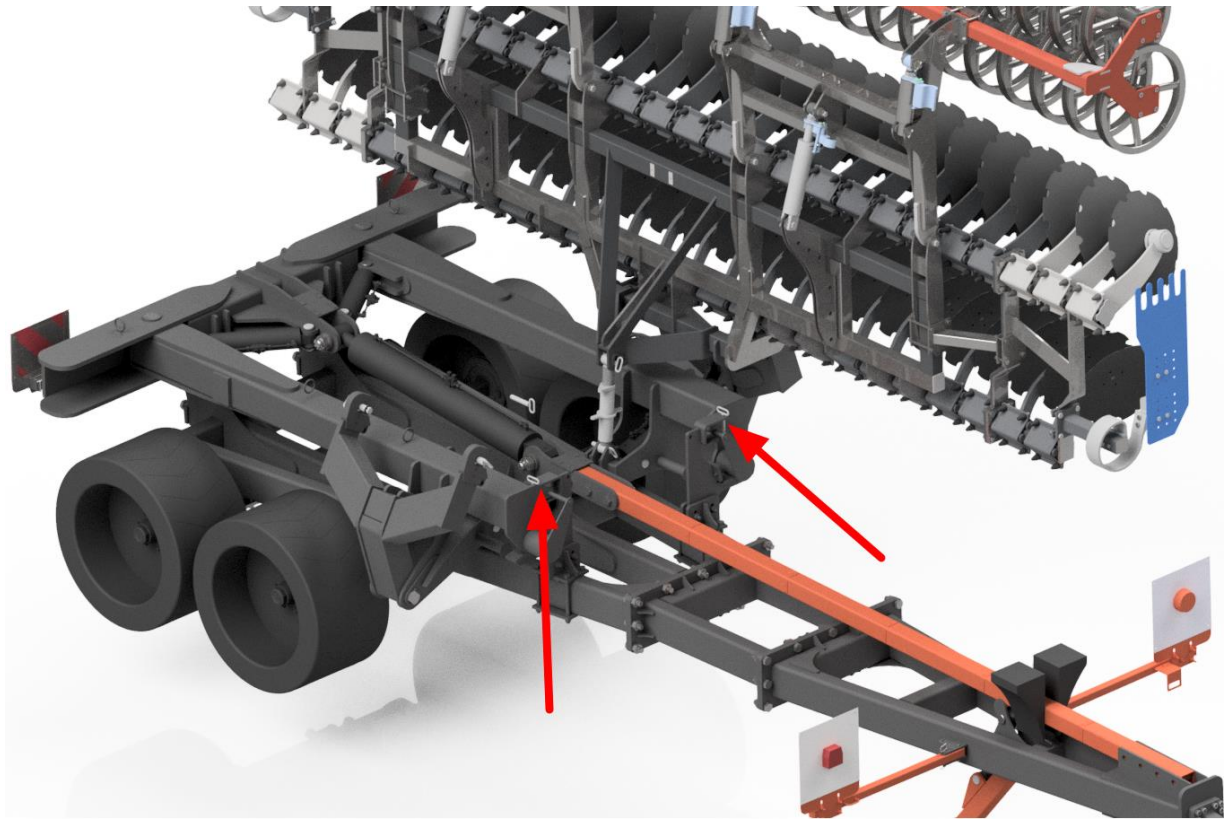

Fig. 19 Location of pins preventing the machine wings from unfolding.
2. Pull out the pins securing the machine wings against self-extension from the buffers (fig.19).